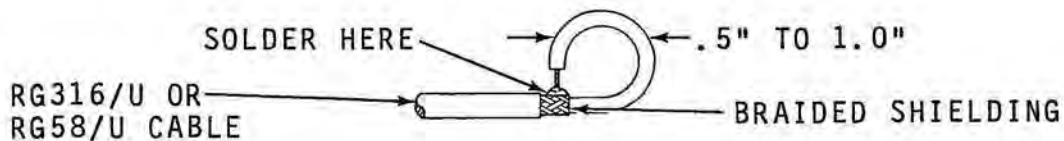

Figure B-2 Soldering Cable Center Conductor to Braided Shielding
2. Bend coax cable into loop as shown in Figure B-2 below and solder center conductor to braided shielding.